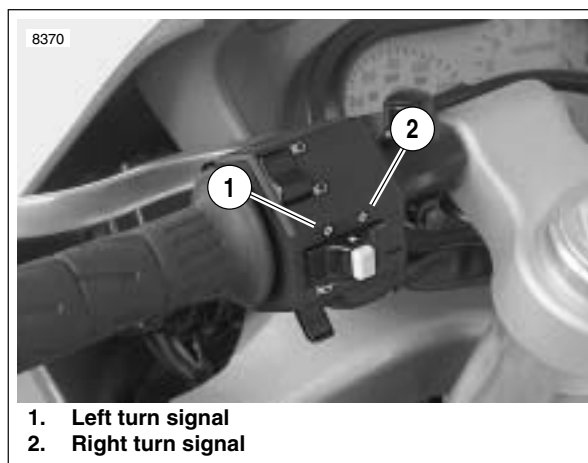

Figure 7-56. Turn Signal Controls
- b. See Figure 7-56. Activate left turn signals using switch on left handlebar. Front and rear left turn signals must flash.